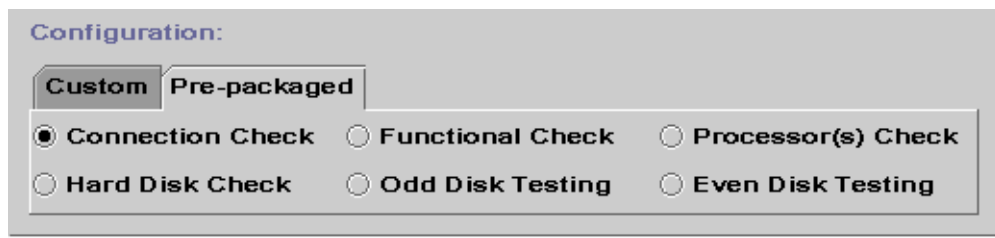

FIGURE B-12 Configuration Field, Pre-Packaged Schedules
- **Pre-Packaged**—(FIGURE B-12) Provides buttons to select pre-packaged test session schedules. These schedules are explained in TABLE B-2.